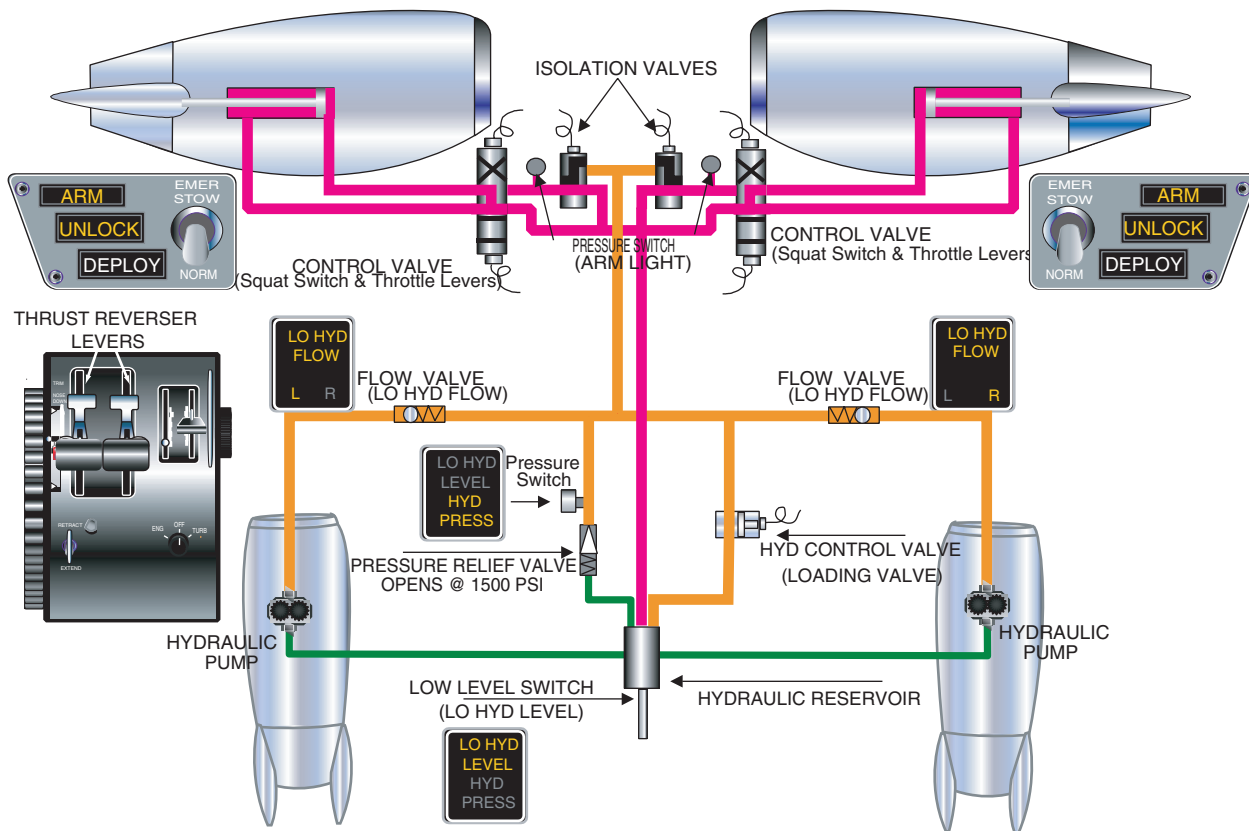

Figure 13-4 Thrust Reverser System
A microswitch in the throttle quadrant provides for electrical control. The switch is closed when the reverser lever is moved from the stow position, applying power to (1) close the hydraulic control valve and pressurize the hydraulic system, (2) open the thrust reverser isolation valve directing pressure to the reverser hydraulic system, and (3) energize the reverser control valve to deploy the buckets, provided a ground is supplied by either or both squat switches (Figure 13-4).
HYD PRESS annunciator will illuminate steady followed immediately by “steady” **ARM** light(s) illuminating as the thrust reverser isolation valve(s) energize open. Next, the control valve(s) energize open, provided a squat switch is in the GOG mode, and allows hydraulic pressure to the thrust reverser actuators mounted on the engine nacelle(s). The overcenter locks are released followed immediately by the amber **UNLOCK** light(s) illuminating “steady”. As the thrust reverser buckets are driven to the full deploy position, the white **DEPLOY** light(s) illuminate (Figure 13-4).
A two-position switch for each reverser is located inboard of the reverser lights. The switch is labeled "STOW EMER - NORM." Placing a STOW switch to the EMER position will close the hydraulic system control valve and cause the reverser isolation and control valves to energize to the stow position (Figure 13-4). The **HYD PRESS** light will illuminate and the **DEPLOY** and **UNLOCK** lights will extinguish. The **HYD PRESS** light and the **ARM** light will remain on continuously in the STOW position, thus holding the reversers STOWED by applying continuous hydraulic pressure (mechanical, overcenter stow locks may be inoperable).